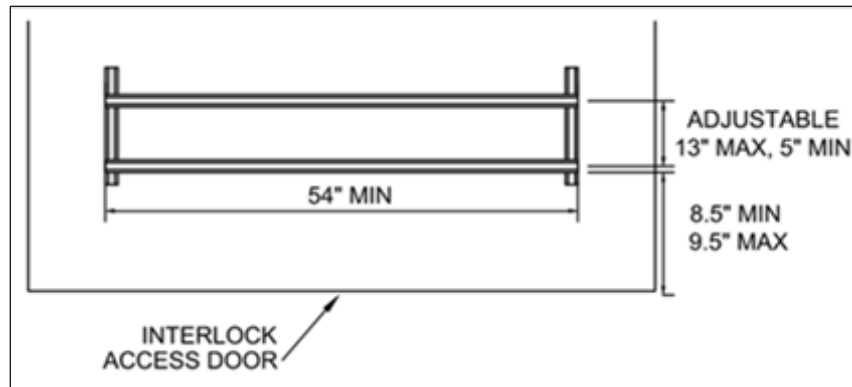

Figure 17: VT Mounting for 12.47 kV and 34.5 kV (STD-M-3003)
- VT mounting base spacing must meet the requirements of EUSERC 407, as shown in Figure 17.
For 12.47 kV services, the VT compartment must meet the clearances shown in Figure 17.